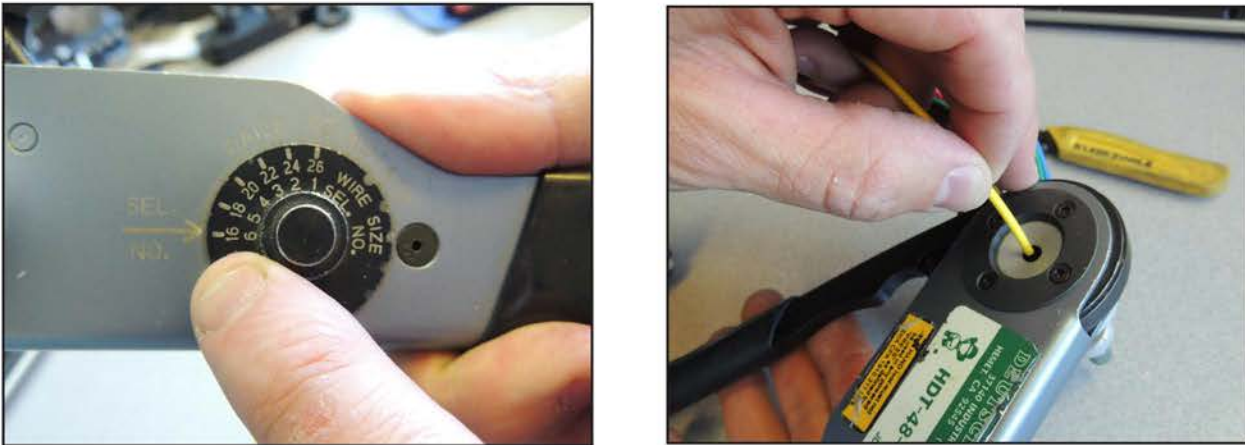

Figure 6: Use a Deutsch crimper to crimp the Deutsch socket onto the wire.
9. Use the Deutsch crimper, set at #16, to crimp the Deutsch socket onto the wire (Figure 6).